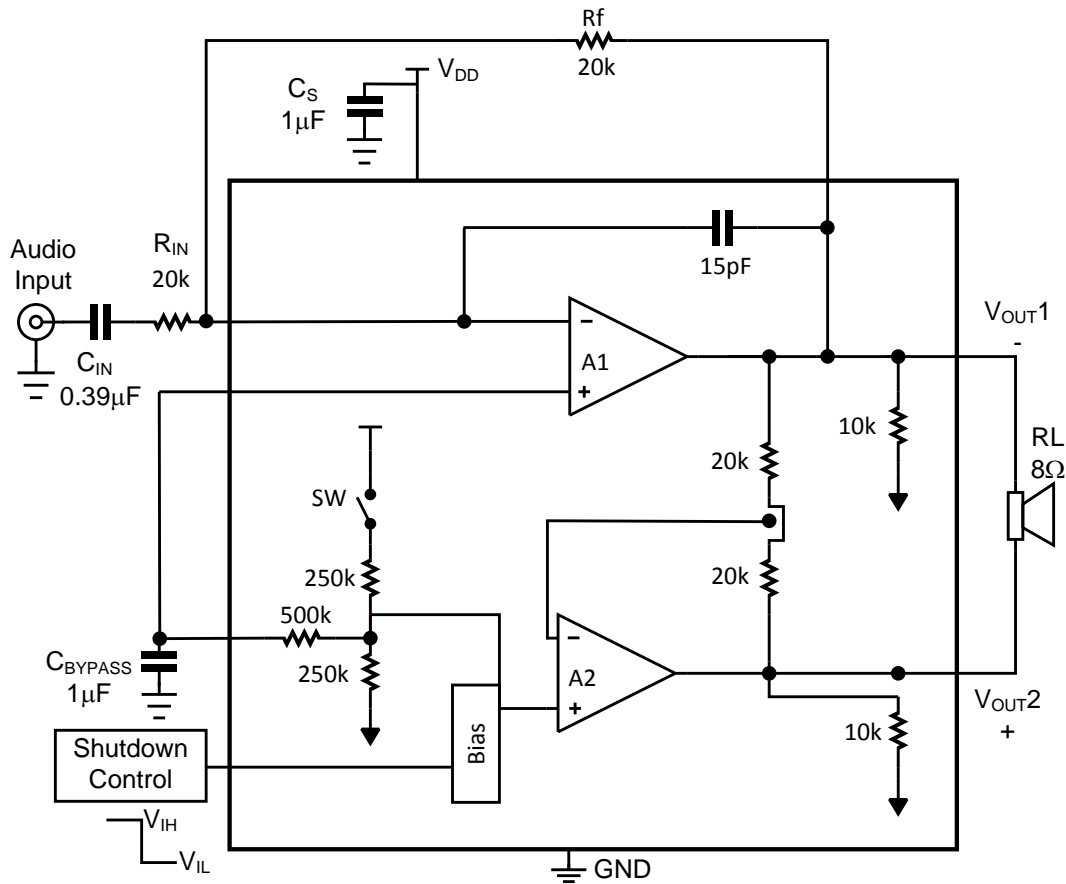

Figure 7. Typical Audio Amplifier Application Circuit
The following specifications apply for the circuit shown in Figure 7 unless otherwise specified. Limits apply for  $T_A = 25^\circ C$ .
- (1) All voltages are measured with respect to the ground pin, unless otherwise specified.
- (2) *Absolute Maximum Ratings* indicate limits beyond which damage to the device may occur. *Operating Ratings* indicate conditions for which the device is functional, but do not ensure specific performance limits. *Electrical Characteristics* state DC and AC electrical specifications under particular test conditions which ensure specific performance limits. This assumes that the device is within the Operating Ratings. Specifications are not ensured for parameters where no limit is given, however, the typical value is a good indication of device performance.
- (3) For DSBGA only, shutdown current is measured in a Normal Room Environment. Exposure to direct sunlight will increase  $I_{SD}$  by a maximum of 2 $\mu A$ .
- (4) Typicals are measured at 25 $^\circ C$  and represent the parametric norm.
- (5) Limits are specified to TI's AOQL (Average Outgoing Quality Level).
- (6) Datasheet min/max specification limits are specified by design, test, or statistical analysis.
- (7) ROUT is measured from each of the output pins to ground. This value represents the parallel combination of the 10k ohm output resistors and the two 20k ohm resistors.
- (8) PSRR is a function of system gain. Specifications apply to the circuit in Figure 7 where  $A_V = 2$ . Higher system gains will reduce PSRR value by the amount of gain increase. A system gain of 10 represents a gain increase of 14dB. PSRR will be reduced by 14dB and applies to all operating voltages.
The following specifications apply for the circuit shown in Figure 7 unless otherwise specified. Limits apply for  $T_A = 25^\circ\text{C}$ .
(8) PSRR is a function of system gain. Specifications apply to the circuit in Figure 7 where  $A_V = 2$ . Higher system gains will reduce PSRR value by the amount of gain increase. A system gain of 10 represents a gain increase of 14dB. PSRR will be reduced by 14dB and applies to all operating voltages.
The following specifications apply for for the circuit shown in Figure 7 unless otherwise specified. Limits apply for  $T_A = 25^\circ\text{C}$ .
(1) All voltages are measured with respect to the ground pin, unless otherwise specified.
(3) For DSBGA only, shutdown current is measured in a Normal Room Environment. Exposure to direct sunlight will increase  $I_{SD}$  by a maximum of 2 $\mu\text{A}$ .
(4) Typicals are measured at 25 $^\circ\text{C}$  and represent the parametric norm.
(5) Limits are specified to TI's AOQL (Average Outgoing Quality Level).
(6) Datasheet min/max specification limits are specified by design, test, or statistical analysis.
(7) PSRR is a function of system gain. Specifications apply to the circuit in Figure 7 where  $A_V = 2$ . Higher system gains will reduce PSRR value by the amount of gain increase. A system gain of 10 represents a gain increase of 14dB. PSRR will be reduced by 14dB and applies to all operating voltages.